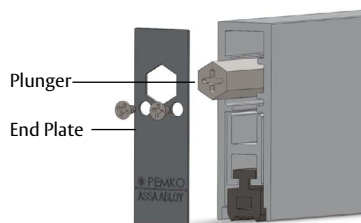

Figure 5
4. On the plunger side, with the "This Side In" sticker towards the ADB, align the end plate's hexagonal hole with the plunger and install using the end plate screws as shown in Figure 5